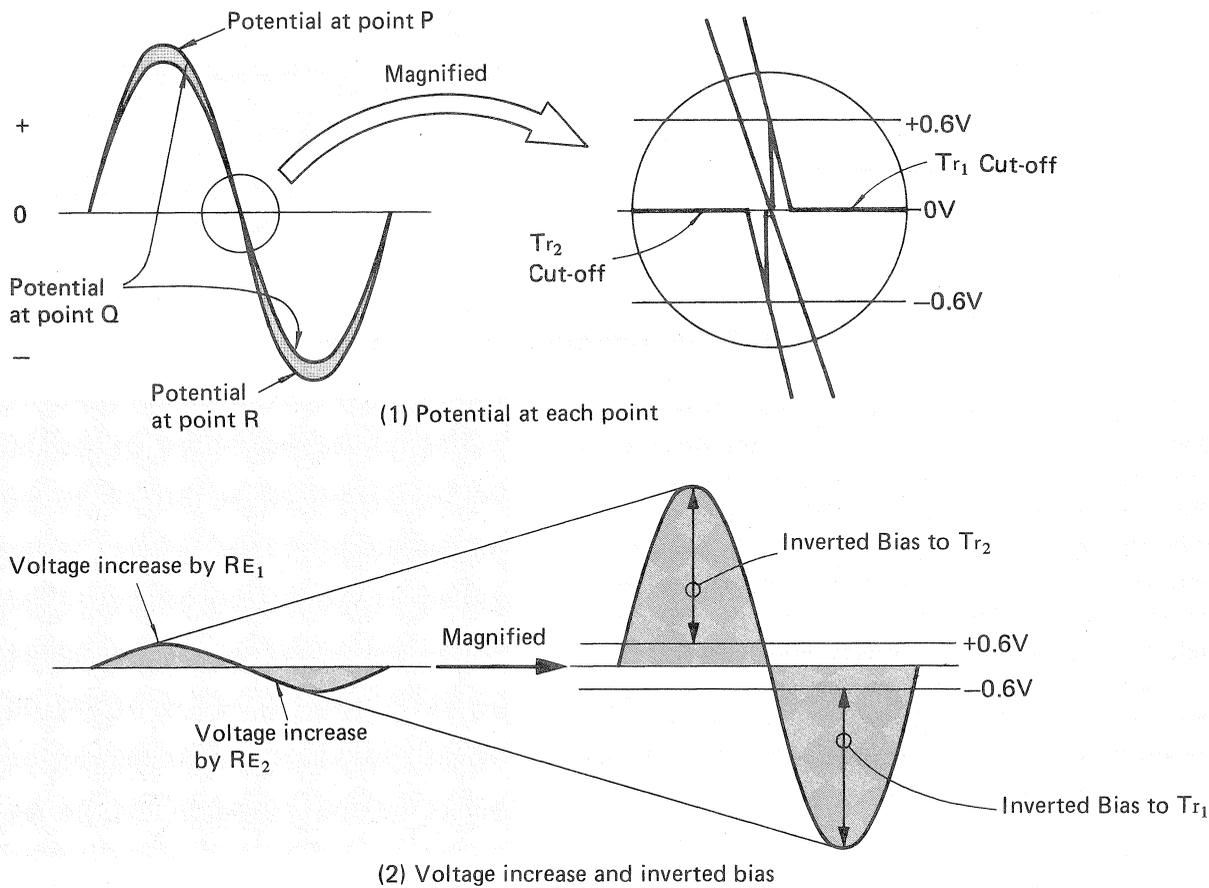

Fig. 5 Voltage drop by emitter resistors and cut-off
Similarly,  $T_{r1}$  will be cut off when voltage across  $RE_2$  exceeds 0.6V in the case of a negative half cycle. Fig. 5 will explain this.
The gray areas of Fig. 5 (1) represent increments in potential due to  $RE_1$  and  $RE_2$ .